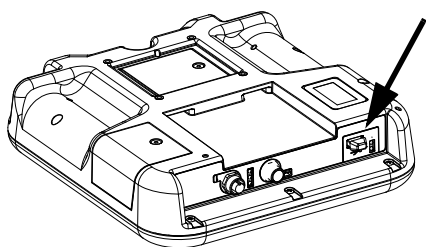

Fig. 47: ADM USB Port
1. Insert USB flash drive into USB port (BL). See FIG. 47 on page 65.
3. Remove USB flash drive from USB port (BL).